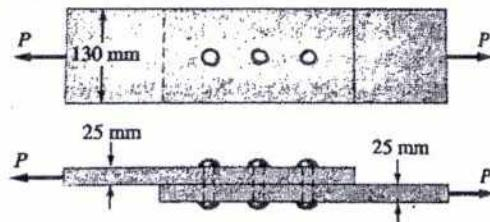

Figure 3
- Q3** The lap joint is connected by three 20 mm diameter rivets/bolts as shown in Figure 3. Assume that the axial load, $P = 50 \text{ kN}$ is distributed equally among the three rivets/bolts, find (a) shear stress in a rivet/bolts; (b) bearing stress between a plate and rivet/bolts, and (c) the maximum average tensile stress in each plate. (8)